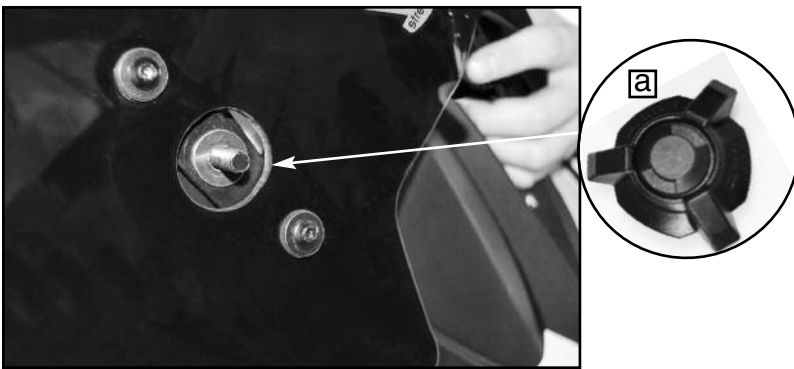

Figure 10
6. Tighten knobs (a) firmly. **Figure 10**